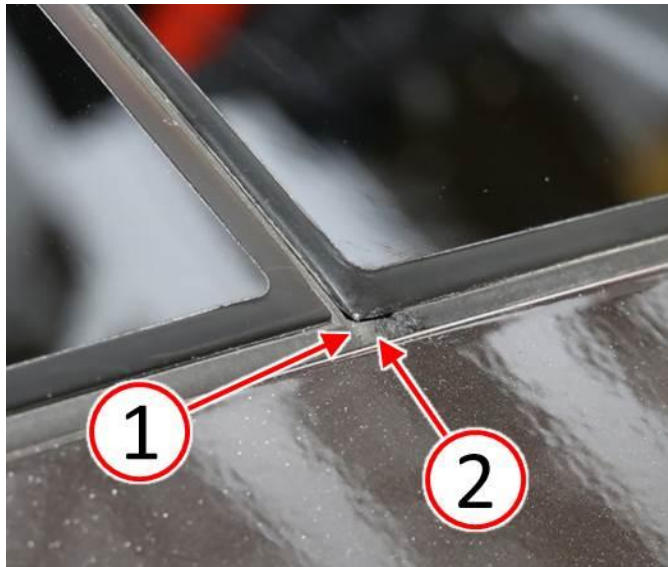

Fig. 9 Inspect Repair For No Gap
12. Close the sunroof to verify there is no gap or gap is less than 1 mm between the foam stuffer (2) and the movable sunroof pane (1) (Fig. 9).